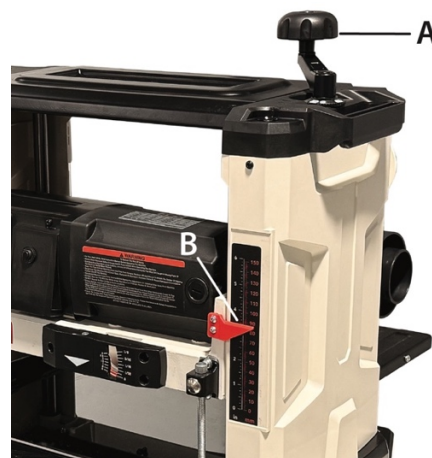

Figure 9-3
2. Set the planing thickness with the crank (A). The planing thickness is indicated by the scale (B). See Figure 9-3.